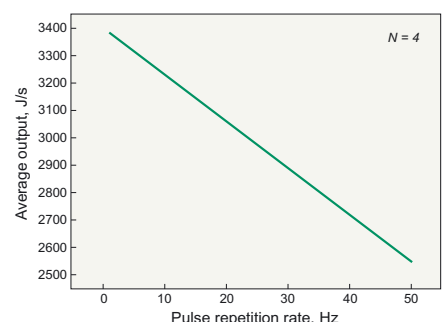

Fig. 2. Fixed pulsewidth driver average output power versus pulse repetition rate
3) See Fig. 2 for other pulse repetition rates